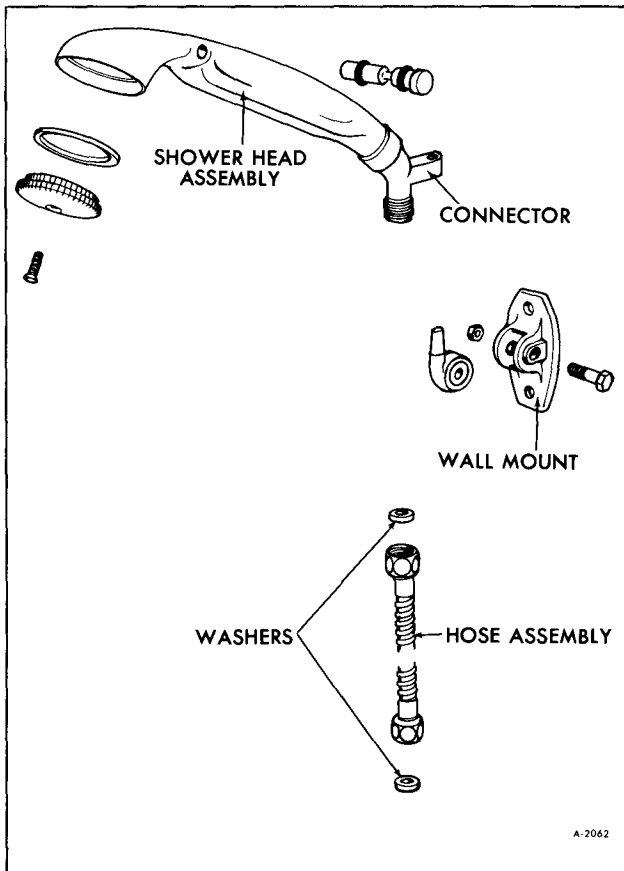

Figure 45—Type 1 Shower Head
2. Remove shower head hose from wall connection (See figures 45 and 46).